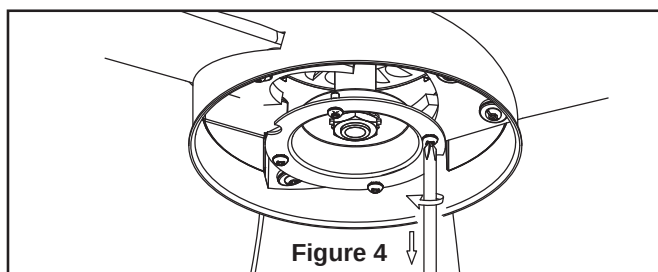

Figure 4
- ☐ 4. Slide downrod into the downrod support on top of the motor. Install the clevis pin by aligning the holes in the downrod support with holes in the downrod. Secure clevis pin with hairpin clip. Tighten the two set screws with nuts in the downrod support. (Figure 4)
- ☐ 2. Carefully lift the fan and seat the downrod/hanger ball assembly on the hanger bracket that was just attached to the outlet box. Be sure the groove in the ball is lined up with tab on the hanger bracket. (Figure 4)
- ☐ 4. Loosen three screws and remove one screw from support flange. (Figure 4)